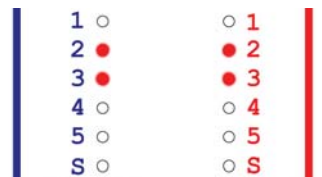

Fig11. SHORT between adjacent Pins
d) A short between two adjacent pins which have connections at both ends of the cable (Fig11).